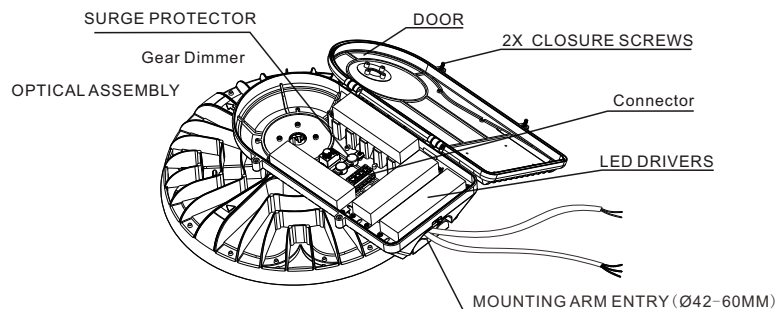

Figure 1
- Description of each part of the product, Figure 1;